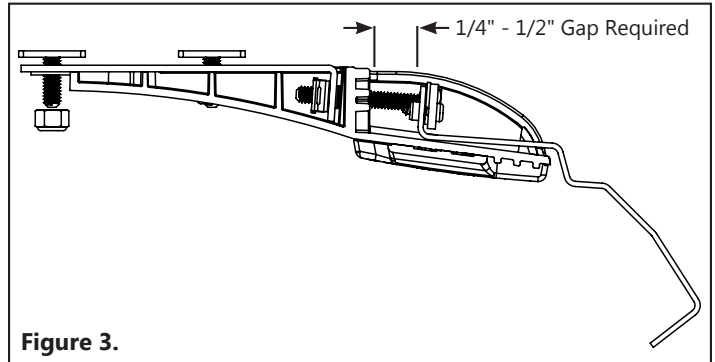

Figure 3.
3. Place lightbar centered on the roof, and hold brackets up to the lightbar. A 1/4" to 1/2" gap should be between the hook bracket and front wall of the mounting foot prior to putting any tension on the hook bracket bolt (shown in **Fig. 3**). Adjust the mounting foot position to accommodate for this gap.